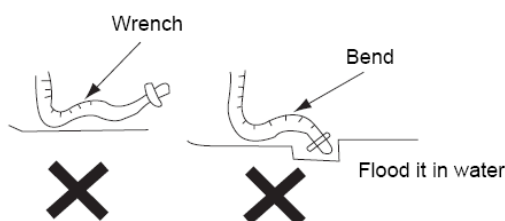

Fig. 11-3
- Do not wrench, bend or heave the drain hose or flood its end into water (As shown in fig.11-3).